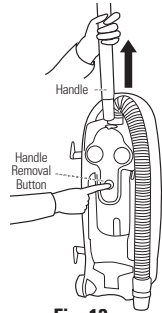

Fig. 13
3. Remove handle from cleaner: Push handle removal button and pull up on handle to disconnect from body. (Fig. 13)